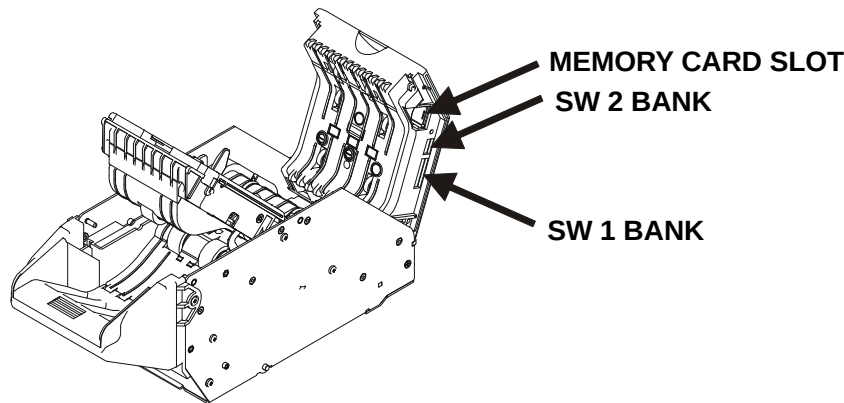

Fig. 42. DIP switch array and Memory Card slot
Device configuration is implemented with array of DIP switches, divided into SW1 and SW2 banks. DIP switch banks location is shown in Fig. 42.
- Step 3.** Remove the card from the slot. (please see Fig. 42).
- Step 4.** Insert the new memory card. (please see Fig. 42), contact pads facing up and away from user.